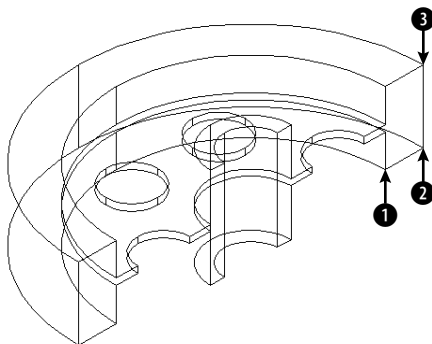

**Figure 24-34:** This 3D model was sliced and can now be mirrored.
1. If you have ab24-08.dwg open from the previous exercise, use this drawing. If you don't have it open, open it from your AutoCAD Bible folder or from the Results folder of the CD-ROM. If necessary, change the visual style to 3D Wireframe. Make sure that OSNAP is on, and set a running object snap for endpoint. If you don't have the Modeling toolbar open, right-click any toolbar and choose Modeling from the toolbar list. The drawing is shown in Figure 24-34.
Specify first point of mirror plane (3 points) or [Object/Last/Zaxis/View/XY/YZ/ZX/3points] <3points>: *Pick ❶ in Figure 24-34.*